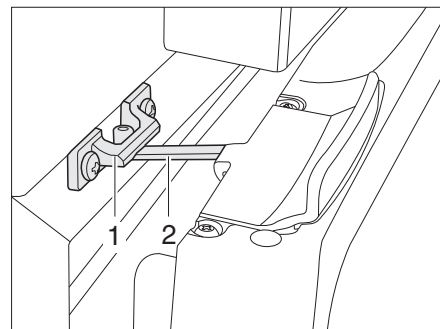

Fig. 362 Refrigerator door in ventilation position (Thetford)
- Open the lock (Fig. 362,2) and snap it into the locking catch (Fig. 362,1). The refrigerator door will then stay slightly open.